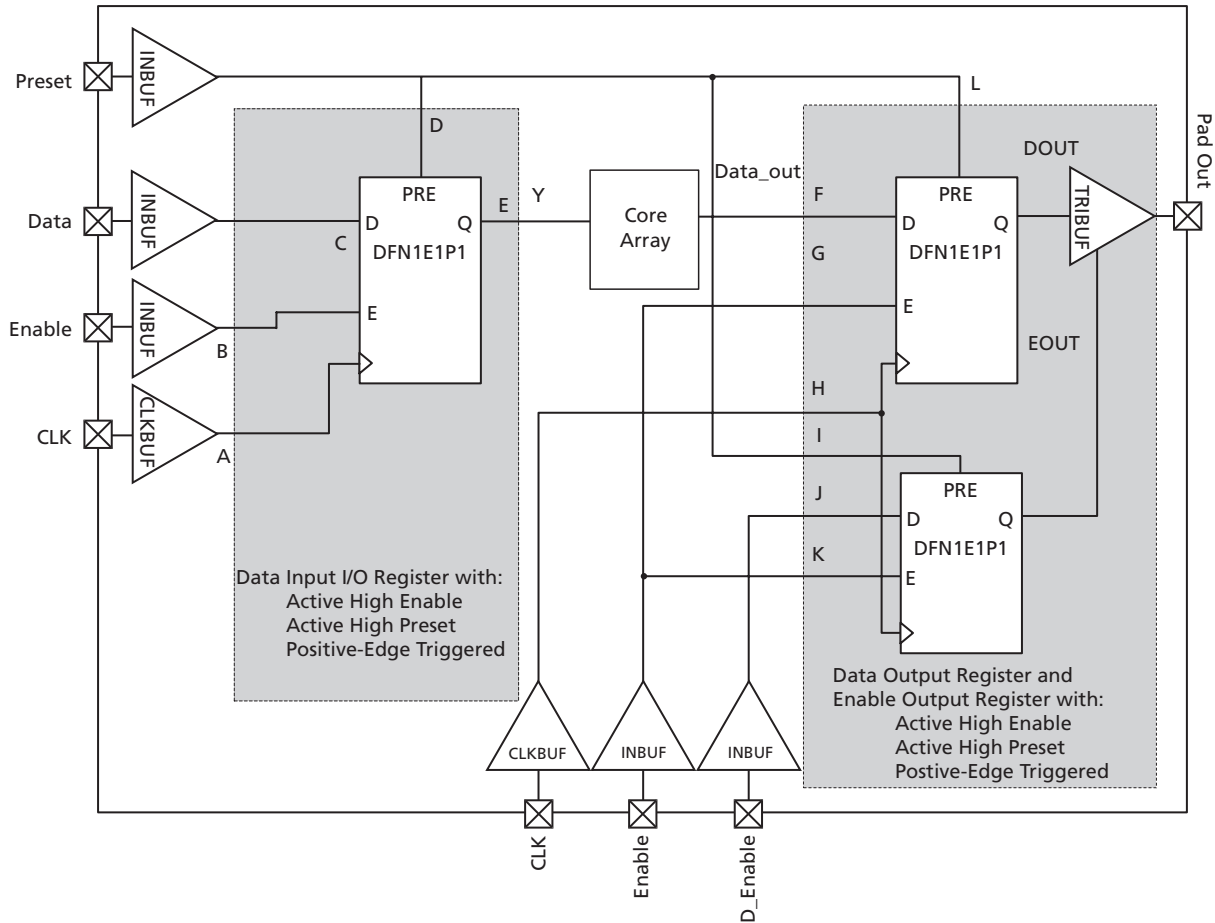

Figure 2-26 • Timing Model of Registered I/O Buffers with Synchronous Enable and Asynchronous Preset
* See Figure 2-26 on page 2-67 for more information.